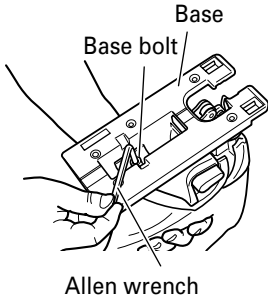
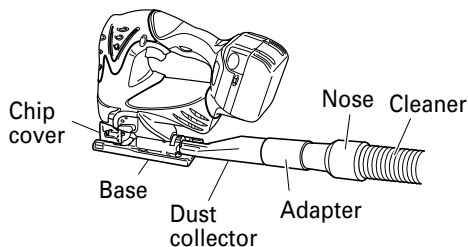

Fig. 16
Fig. 23
- (1) Loosen the base bolt by allen wrench attached on base. (Fig. 16)
- (1) Loosen the base bolt by allen wrench attached on base and move the base fully forward. (Fig. 16, 17)
- (3) Tighten the M5 bolt again. (Fig. 16)
- (4) Set the orbital position to "0".
- (1) Remove the allen wrench from the base.
- (2) Move the base fully forward. (Fig. 16, 17)
- (3) Attach the chip cover.
- (4) Connect the dust collector with adapter. (Fig. 23)
- (5) Connect the adapter with the nose of cleaner. (Fig. 23)